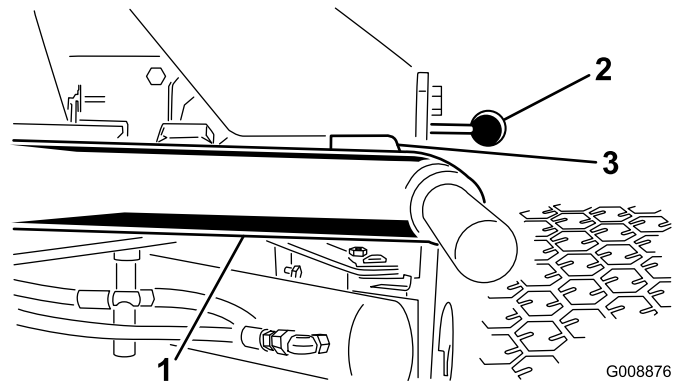

Figure 25
1. Start the engine, raise the lift arms, and check to ensure that the clearance between each lift arm and the floor plate bracket is 5 to 8 mm (0.18 to 0.32 inches) (Figure 25).